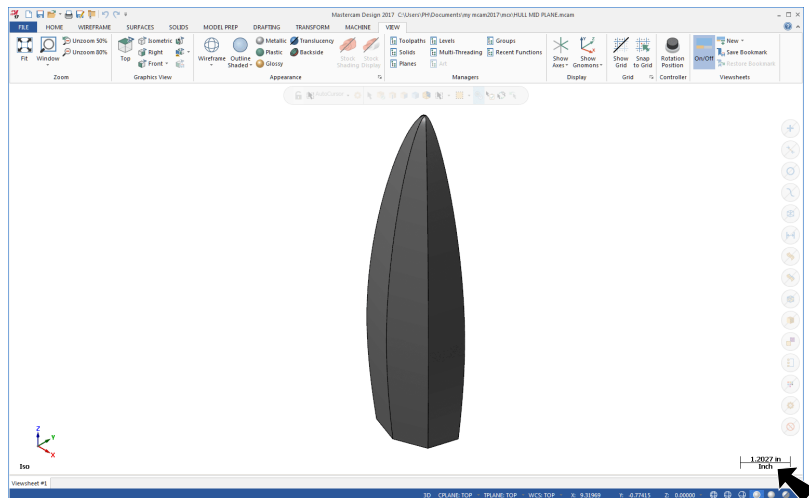

Fig. 2
Step 1. Confirm in the bottom right corner of the graphics window, the units are Inch, Fig. 2.